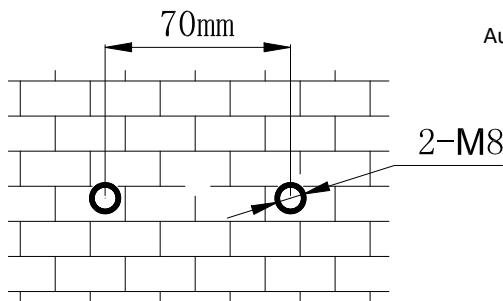

Fig.2 Installation
1. Since the product has a weight of 7.0 kg, the product should be fixed to a solid position with two bolts with a diameter of 8 mm (see Fig. 2). Be sure that the bolts are tightened securely.